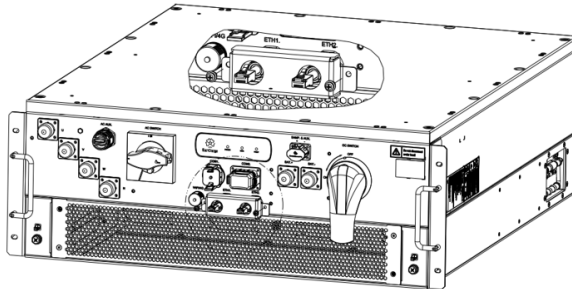

Figure 6-36 Install the RJ45 port cover plate
Step 7: Install the RJ45 port cover plate and secure it to the PCS with M4*10 combination screws. The recommended tightening torque is 1.2 N·m, as shown in Figure 6-36.